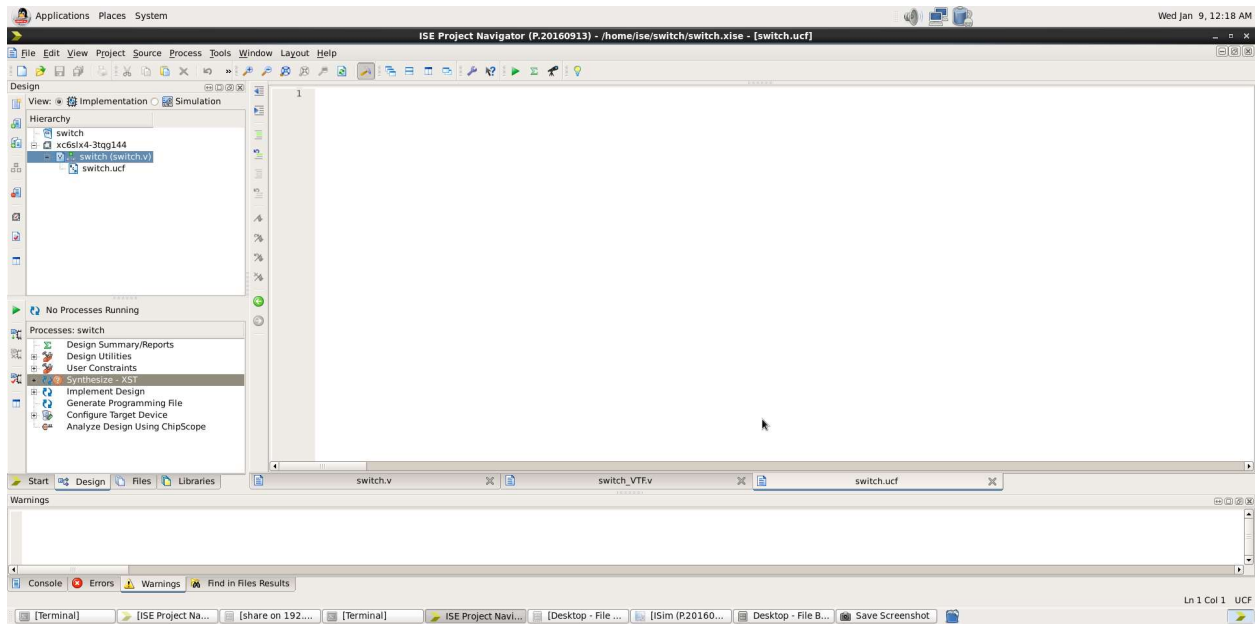

Fig 1.27: Blank UCF
29. A blank window will appear in a new tab having the design name with .ucf extension. Here the tab “switch.ucf” is generated as shown in the Fig 1.27.